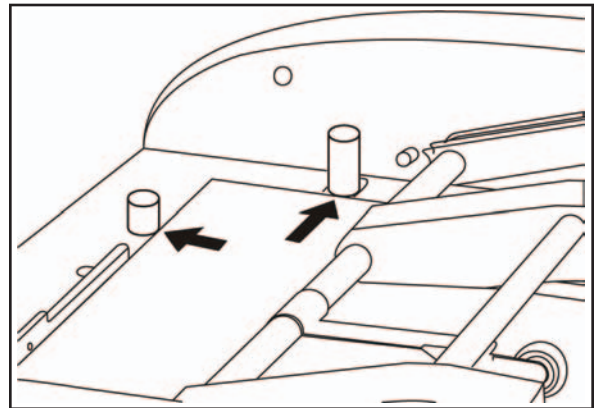

Fig. 8
4. Use the cylindrical magnetic alignment stoppers if needed (fig. 8).